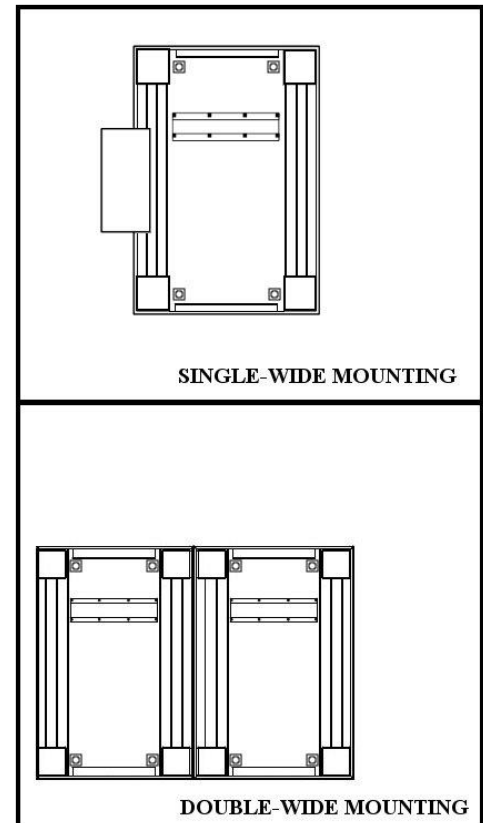

Figure 11—Predrilled Mounting Holes
- 4 Measure and mark the cabinet dimensions on the floor, using **Figure 11**.
- 5 Using **Figure 11**, measure the distance from system sides to each hole-drilling location. Mark each drilling location.
- 9 Using the six pallet-attaching brackets and twelve 19 mm nut and bolt sets, anchor each of the bolts to the chassis in the locations noted in **Figure 11**.